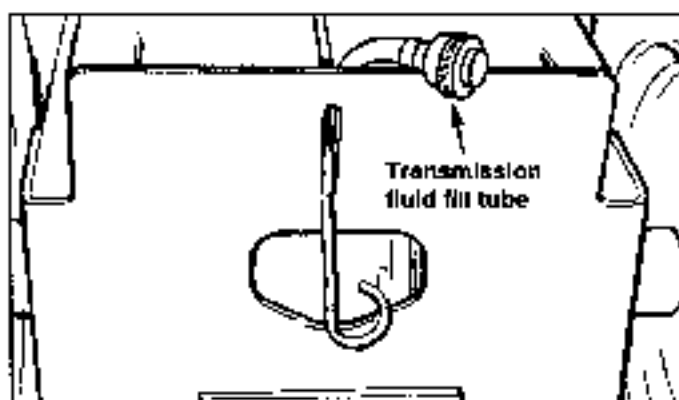

Figure 25B. Transmission Fluid Fill Tube Located at Rear of Tractor
3. Add 10W 40 oil (76 oz.) to the transmission fluid fill tube (figure 25B) until oil just starts to run out of the oil port (figure 25A). Reinstall oil port plug.